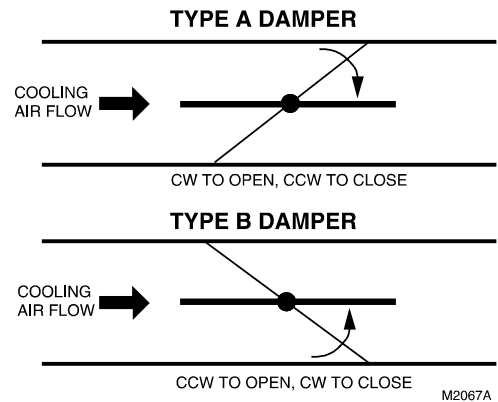

Fig. 5. Determining direction of rotation (CW or CCW) for damper opening.
3. The direction the damper shaft rotates to open the damper (CW or CCW), see Fig. 5.